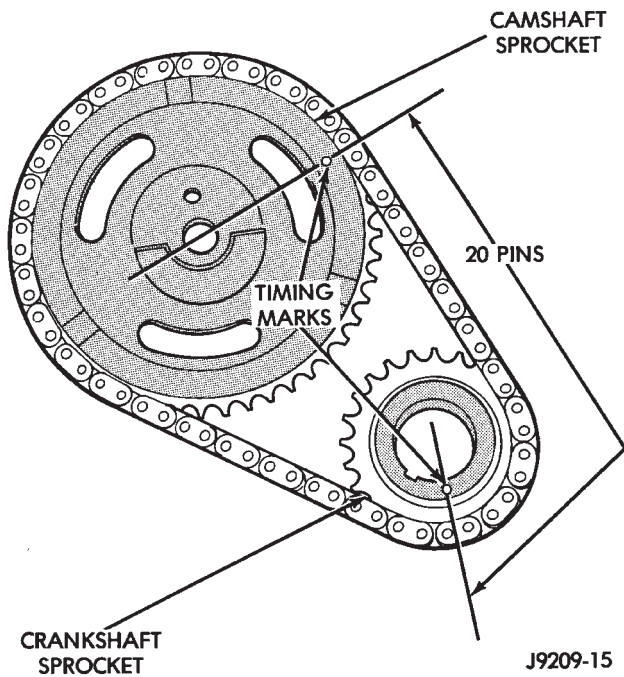

Fig. 9 Verify Sprocket—Chain Installation
- (4) Install the camshaft sprocket retaining bolt and washer. Tighten the bolt to 108 N·m (80 ft. lbs.) torque.
- (5) To verify correct installation of the timing chain, turn the crankshaft to position the camshaft sprocket timing mark as shown in Fig. 9. Count the number of chain pins between the timing marks of both sprockets. There must be 20 pins.